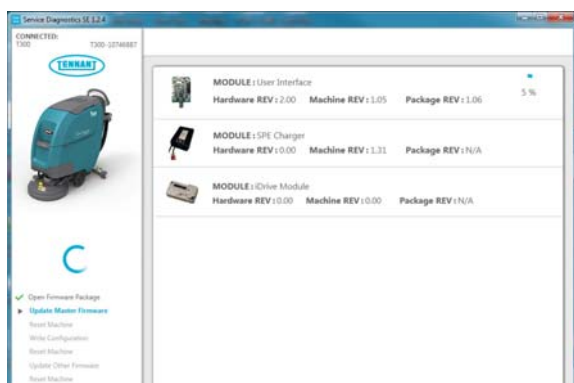

Fig. 9
- The application will begin the process of configuring the new control board. The following screen will appear (Figure 9). During this process, the application may prompt for key cycles. Turn off key, wait a few seconds and turn key back on to continue. The process will also automatically update any machine firmware as needed.